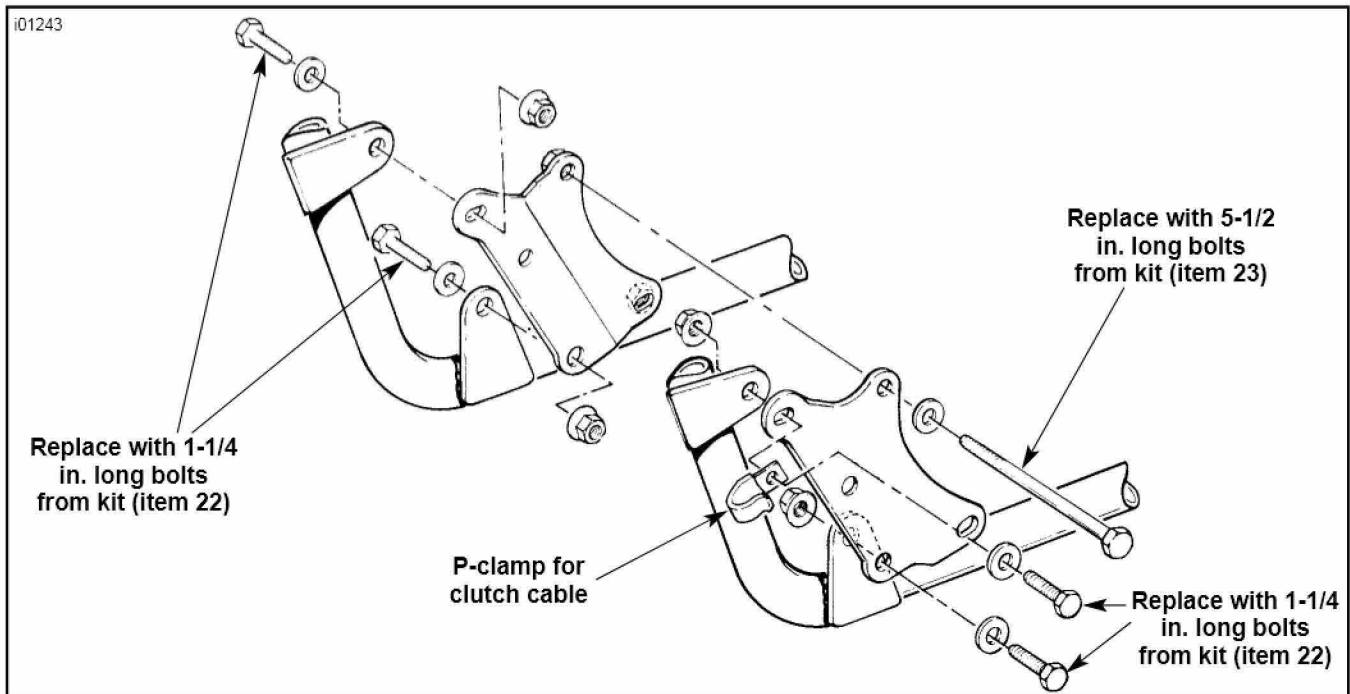
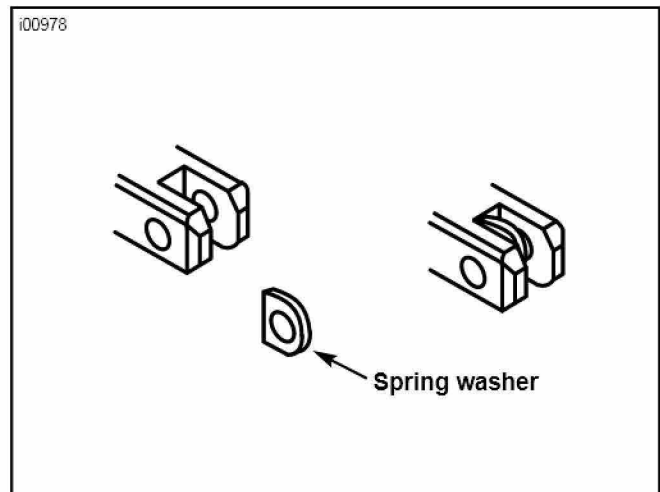

Figure 1. Stock Front Motor Mounts
Figure 3. Footrest
1. Remove stock footrest assembly and save footrest for reinstallation. Replace existing sockethead capscrews that attached footrest bracket to primary cover with washers (5) and shorter screws (21) from kit.
3. See Figure 1. Remove left side stock motor mount and save nuts, washers, and P-clamp for clutch cable. The bolts will be replaced.
4. Put Loctite 243 on threads of left side foot control support (15) and thread support into left side machine motor mount (11). Install C-clip (8) onto support where it exits the backside of machine motor mount to hold support in place.
6. Install shift lever (14) from kit using stock fastener.
7. Put Loctite 243 on threads of clevis mounting screw (4) and install shift lever pedal (13), clevis (17), and footrest (stock), as shown. To install footrest, place a spring washer (19), along with the mount end of the footpeg, inside the slots of the clevis. Make sure the spring washer is positioned inside the clevis with the square edge towards the inside as shown in Figure 3. Secure footpeg and spring washer with bolt (2) and locknut (7). Tighten locknuts to 19 ft-lbs (26 Nm).
- See Figure 1. Remove right side stock motor mount and save nuts and washers. The bolts will be replaced.
- Put Loctite 243 on threads of right side foot control support (16) and thread support into right side machine motor mount (10). Install C-clip (8) onto support where it exits the backside of machine motor mount to hold support in place.
- Install brake pedal assembly (18) into master cylinder by turning push rod at flats to thread on rod end. Adjust rod length with jam nut (6) until brake pedal has reached a 45 degree angle.
- Put Loctite 243 on threads of clevis mounting screw (4) and install clevis (17), and footrest (stock), as shown. To install footrest, place a spring washer (19), along with the mount end of the footpeg, inside the slots of the clevis. Make sure the spring washer is positioned inside the clevis with the square edge towards the inside as shown in Figure 3. Secure footpeg and spring washer with bolt (2) and locknut (7). Tighten locknuts to 19 ft-lbs (26 Nm).